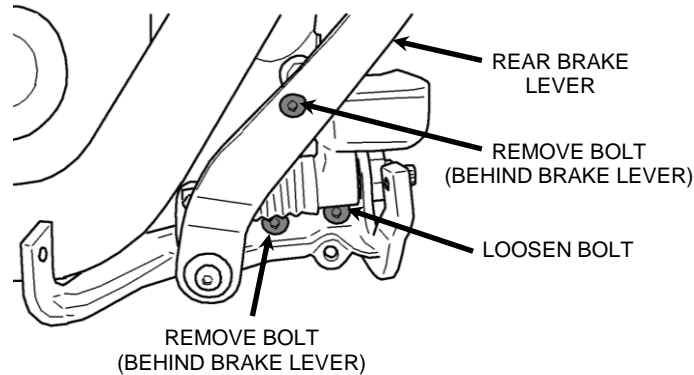

FIGURE 1
3. On FLSTC, FLSTF, FLSTFB, and FLSTN, remove the right floorboard. Remove the top and rear bolts for the right floorboard mounting bracket that are behind the rear brake lever. Loosen the front bolt and rotate the mount down out of the way. See **FIGURE 1**. This will make the installation of the exhaust and heatshields easier.